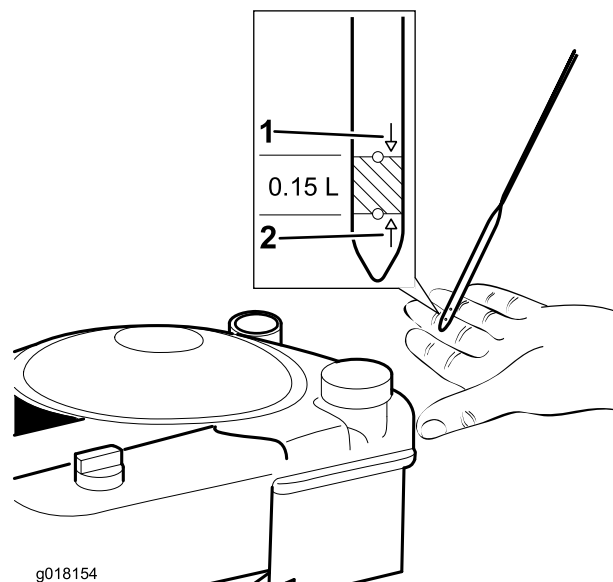

Figure 6
2. **Slowly** pour oil into the oil-fill tube, wait 3 minutes, and check the oil level on the dipstick by wiping the dipstick clean and then fully inserting the dipstick into the tube (Figure 6).
3. Fill the engine with oil until the engine oil level is correct on the dipstick, as shown in Figure 6.
1. Remove the dipstick (Figure 6).